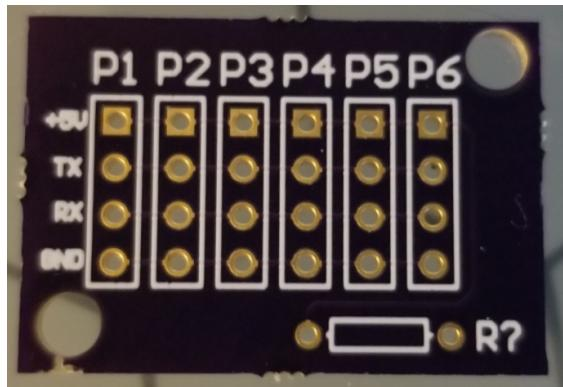

Figure 6: Unpopulated Serial Splitter Board
1. The board will come unpopulated and will look like the board in Figure 6. First solder the 4.7K resistor and all of the header pins into the board.